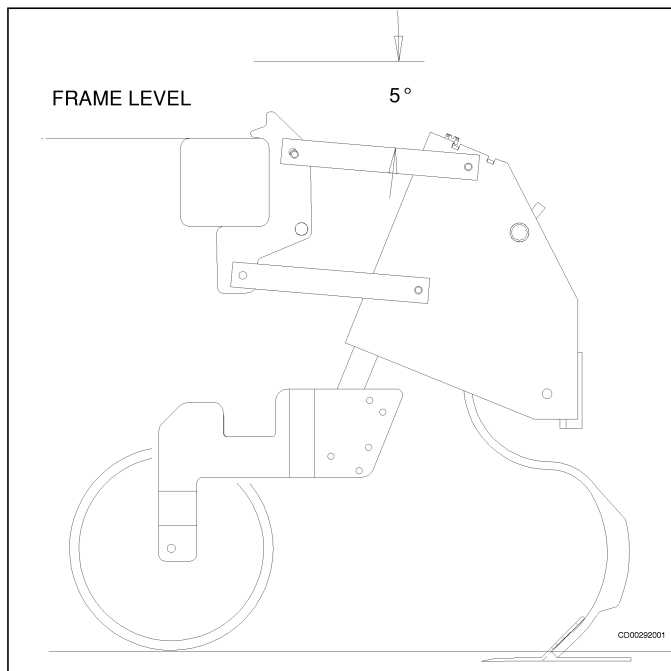

Figure 7 Operating Position
4. Lower cultivator so that sweeps and gauge or guide wheels rest on the ground. Position toolbar in the operating position so that cultivator linkage is nearly horizontal. See Figure 7.